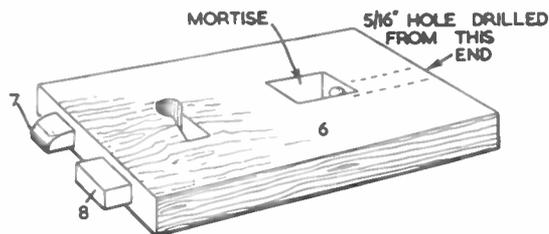

Fig. 5
Butt or piano hinges are screwed to the underside of the top, as shown in Fig. 5. To enable the table to be converted to a desk, hinge a length of 3 in. by ½ in. timber underneath the top, as shown in Fig. 5.
The lock (6) is made up as shown in Fig. 5. It is cut from $\frac{3}{8}$ in. wood, and measures $7\frac{1}{2}$ in. by 4 in. Cut out the key-hole and the mortise, which should fit the tenon of the key. The protruding pieces 7 and 8 are cut from $\frac{3}{8}$ in. wood, and are glued in place. Remember to drill a $\frac{5}{16}$ in. hole into the mortise, as shown in Fig. 5.